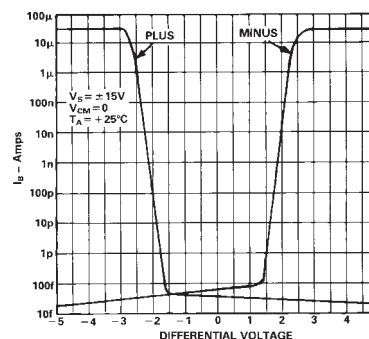

Figure 10. Input Bias Current vs. Differential Input Voltage
4. Figure 10 shows the AD515A's input current versus differential input voltage. Input current at either terminal stays below a few hundred fA until one input terminal is forced higher than 1 V to 1.5 V above the other terminal. Input current limits at  $30\text{ }\mu\text{A}$  under these conditions.